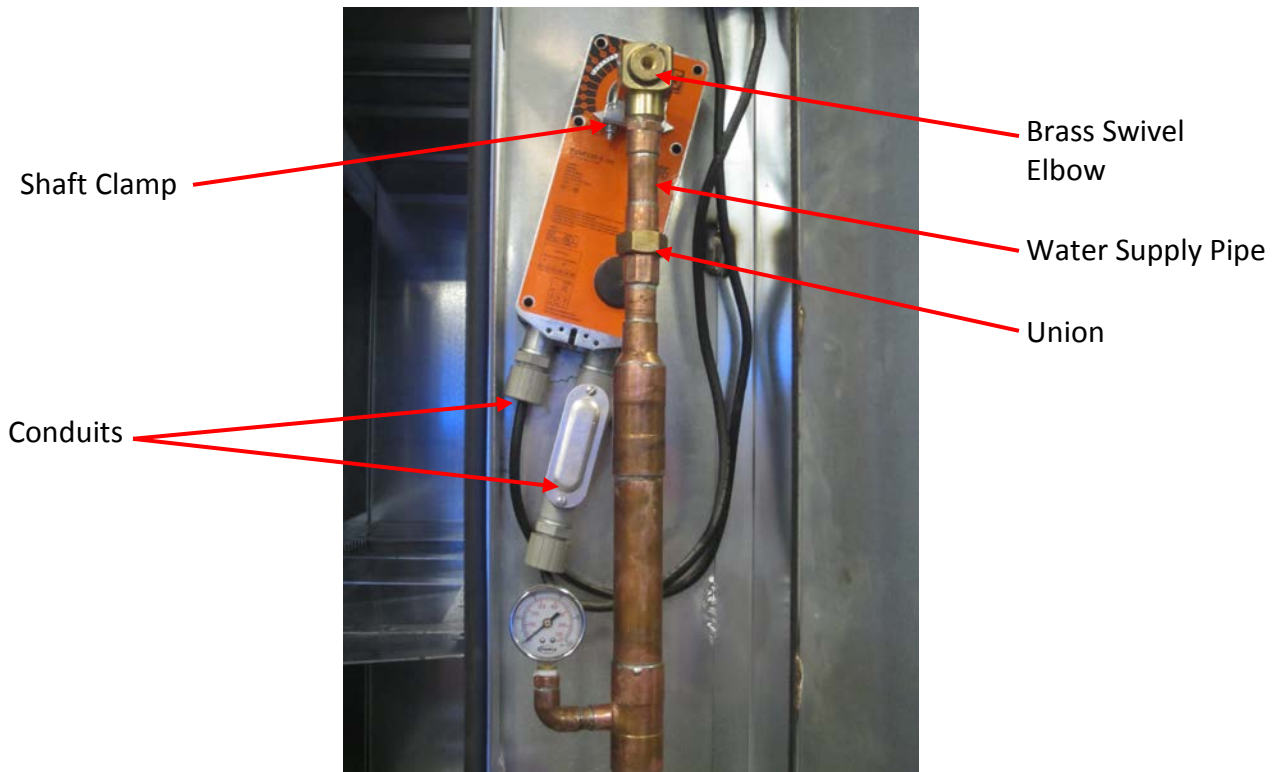

Figure 4-39-1
- b) Initiate a wash cycle and check to see if the motor drive is moving and that the clamp is holding the manifold so the manifold is moving back and forth (Refer to Figure 4-39-1).
- 4) Disconnect the water supply pipe at the union (Refer to Figure 4-39-1).
- Disconnect the water supply pipe at the union (Refer to Figure 4-39-1).